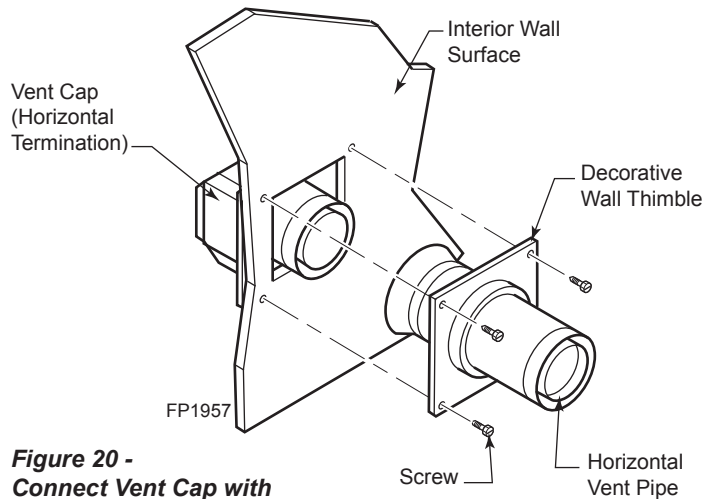

Figure 20 -
- Slide the wall thimble over the vent pipe before connecting the horizontal run to the vent cap. *Figure 20*
- Slide the wall thimble against the interior wall surface and attach with screws. *Figure 20*